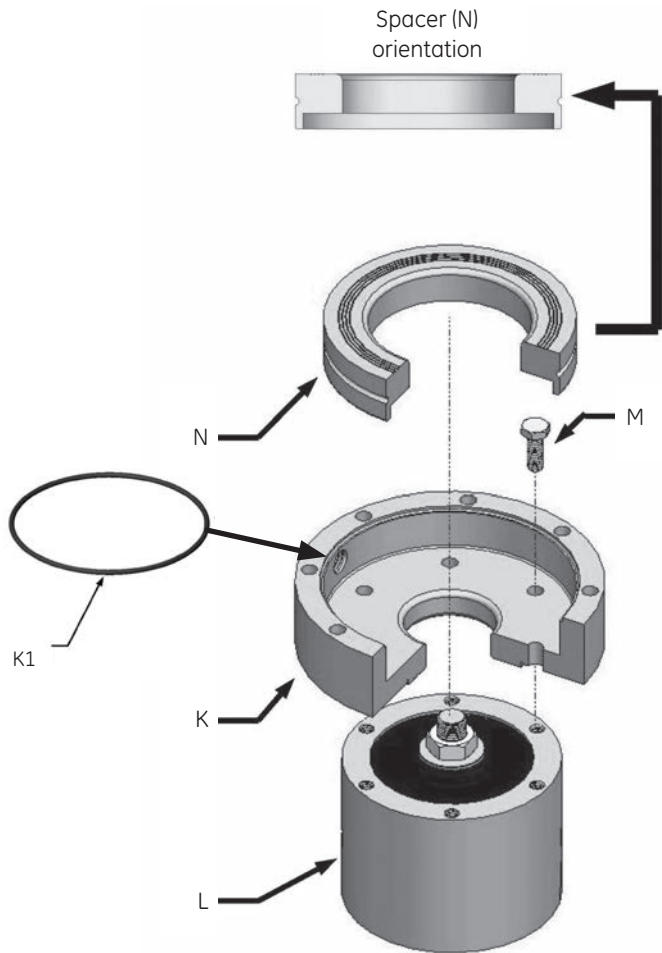

Figure 26 - 175-CH Bottom Flange Assembly
Step 1: Fasten the bottom flange (K) into the top body assembly (L) using six (6) 1/4-20 X 3/4 inch SHCS (M) and insert O-ring - 046 (K1) in the O-ring groove in the bottom flange (K) as shown in Figure 26
Step 2: Place the spacer (N) inside the bottom flange (K).